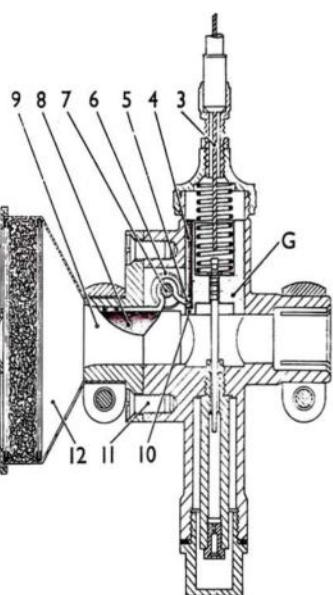

Fig. 3
**PREPARATION.** Follow the Engine Makers' instructions about fuel mixtures, etc., verify that the ignition is in good order and that the sparking plug is clean. Now from the carburetor's point of view check up to see that when the throttle lever is open and the trigger is holding against projection on the lever base, that the throttle is wide open (see fig. 3 on page 5). If the throttle is not wide open, turn the cable adjuster (A) until the throttle is not wide open then adjust the cable adjuster (A) to bring the bottom of the throttle level with the cross bore in the mixing chamber.